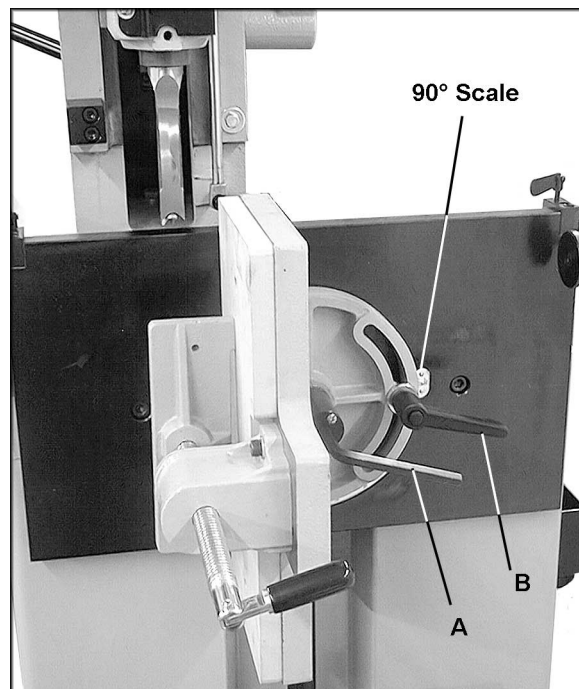

Figure 7
1. Loosen the stud (A, Figure 7).
2. Unscrew and remove the locking handle (B, Figure 7).
3. Rotate the table to vertical position and install the locking handle (B, Figure 7) into the other hole as shown.
First remove the locking handle (B, Figure 7), then unscrew and remove the stud (A, Figure 7).